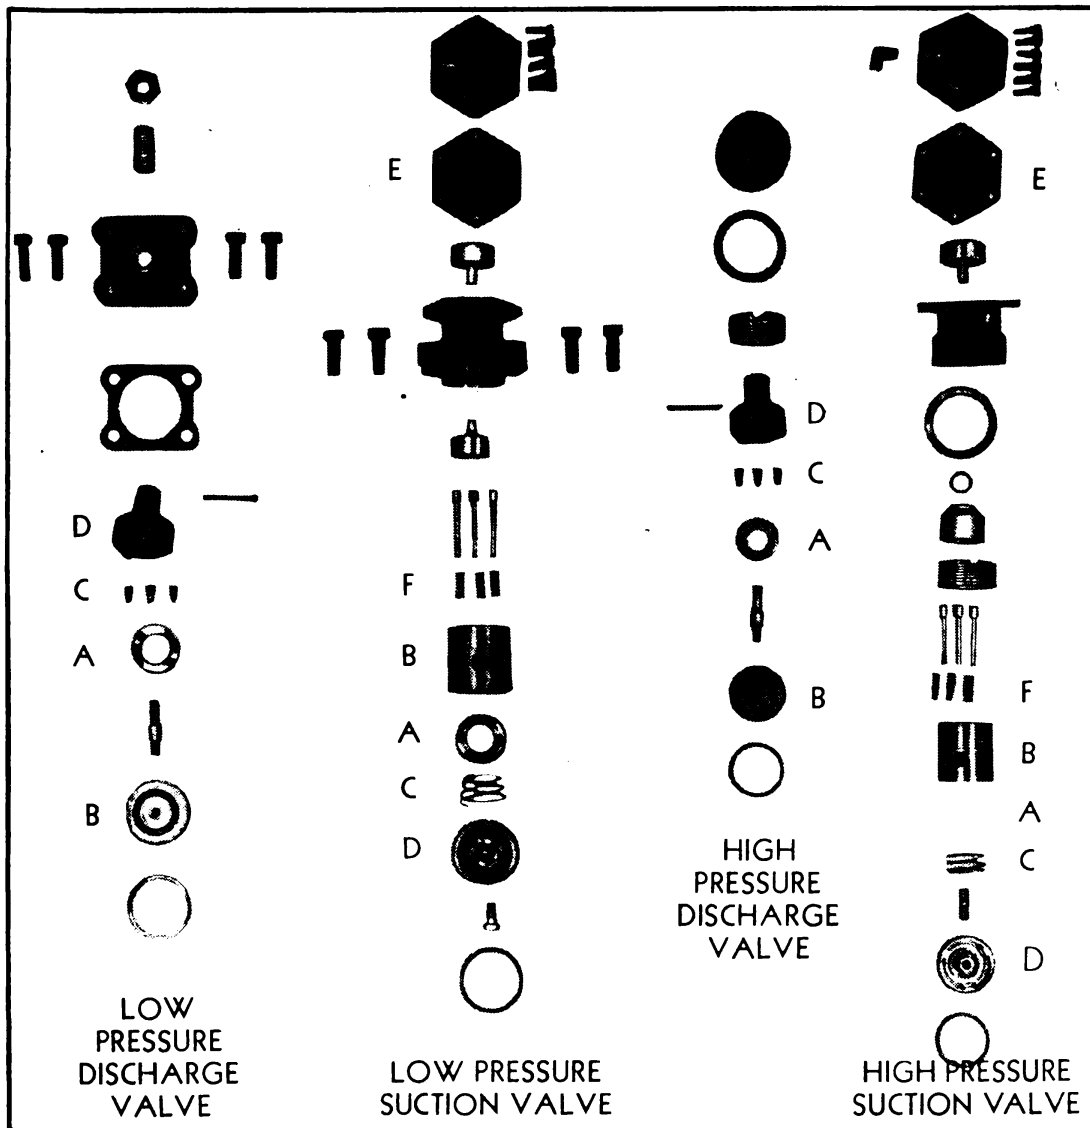

Figure 144—Compressor Diaphragm Arrangements and Valves Disassembled
a. VALVES—Each cylinder has two valves—one intake (suction), and one discharge. Each valve assembly consists of the valve disc itself ("A" Figure 144), the valve seat ("B" Figure 144), the valve springs ("C" Figure 144), and valve bumper ("D" Figure 144). The suction valve assembly is installed with the spring underneath the valve. The valves are opened by air passing through them and closed by the springs and air pressure.
Each entire valve assembly can be lifted easily from the valve pocket and disassembled in a vise. To dismantle the low and high pressure discharge valve assemblies, remove cotters. Clean the entire assembly and replace, making sure that each assembly is put back in the correct pocket and that the correct side is up (Refer to Figures 144, 145 and 146). The springs must be on the top side of the valve disc of the discharge assembly, whereas, in the suc-
b. DIAPHRAGMS—The diaphragm arrangements will seldom require attention. Should the diaphragms (“E” Figures 144, 145 and 146) become cracked or hardened, they should be replaced at once. If leaky, they will prevent the kick-off pins from pushing the valves off their seats, resulting in the compressor not unloading properly. Kickoff springs should be carefully examined and, if they have lost their tension, they should be replaced.
(1) Disconnect discharge tube from cylinder head. Two large wrenches are required.